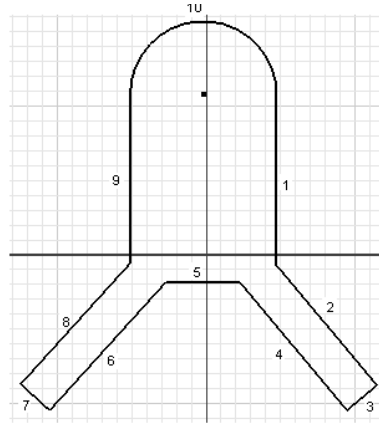

Figure 3-65 Initial sketch with the geometries numbered
- Choose the **Line** tool from the **Create** panel of the **Sketch** tab to draw the outer loop, as shown in Figure 3-65. As mentioned earlier, you should draw the inner loop after drawing and dimensioning the outer loop. This is because once the outer loop is dimensioned, you can draw the inner loop by taking the reference of the outer loop.
You can draw the arc while the **Line** tool is active. You can also use the temporary tracking option to draw this sketch. For your reference, the geometries in the sketch are numbered, see Figure 3-65.